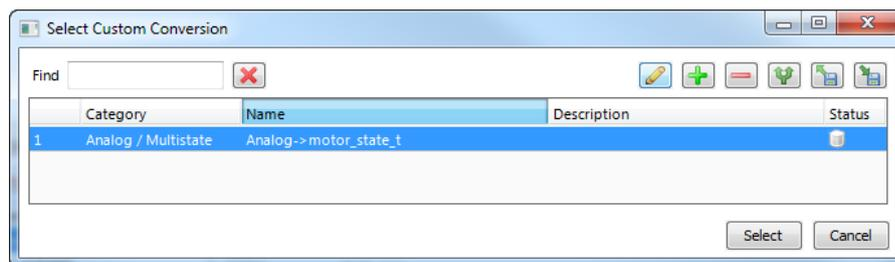

Figure 175: Choose a custom conversion.
10. To add a new conversion to this item, click on the  button. A dialog opens, which displays the matching adaptors already available in the library as shown in Figure 175.